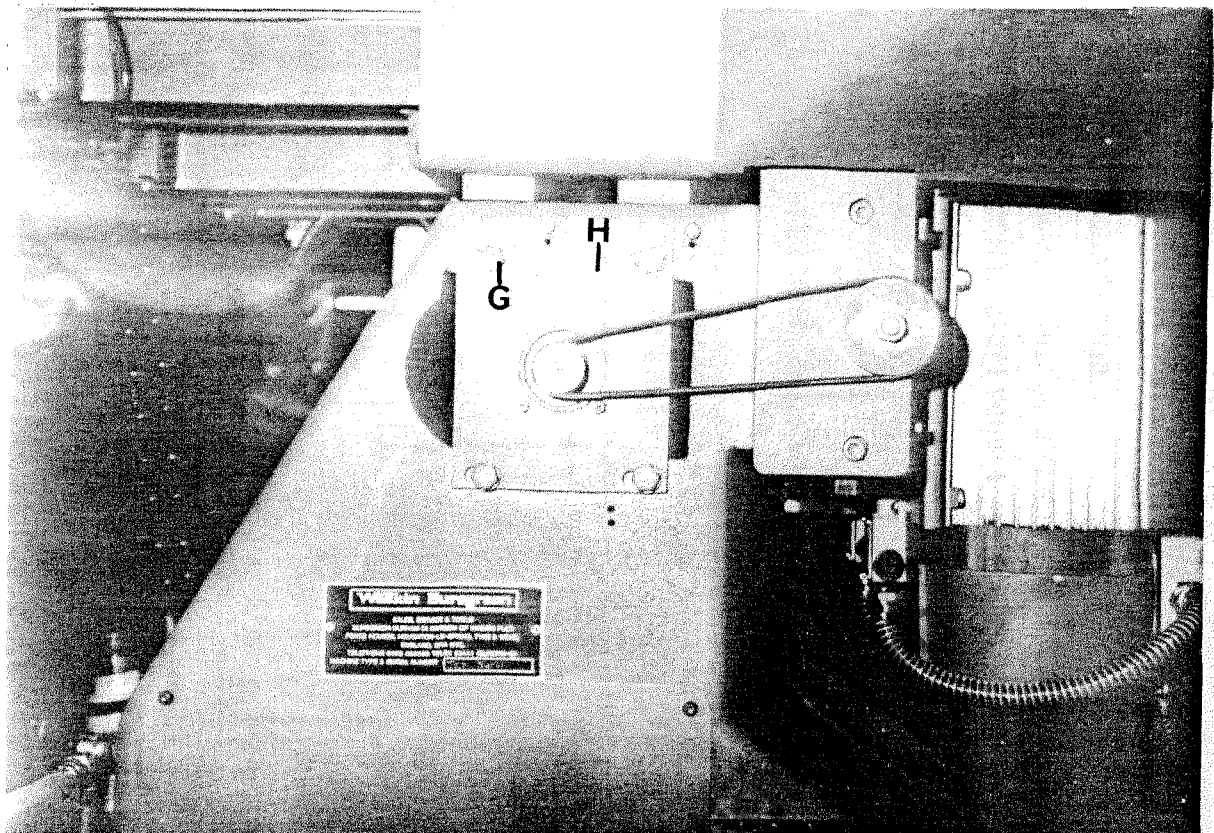

Fig 21
- 3) Release tension on pulleys by 4 - M10 hexagon head bolts 'G' FIG.21.